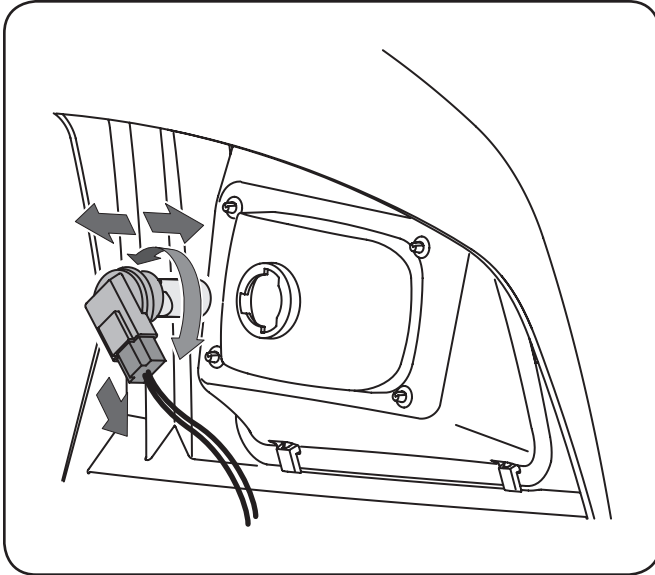

Figure 6-1
2. Turn the bulb/socket assembly approximately a quarter turn counterclockwise to align its tabs with the notches of the reflector, then remove from the reflector. See Fig. 6-1.